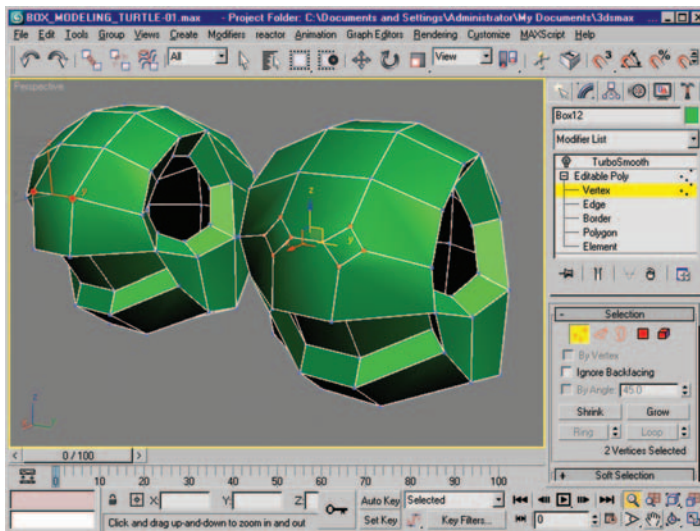

Figure 2.48 Vertex selection and resulting polygons after using Chamfer.
12. Okay, let's give this little guy some nostrils. For the nostrils we are going to start by selecting the two vertices above the mouth and between the eyes. In the Vertex subobject level select these verts and then chamfer them to create two small diamond shapes (Figure 2.48).